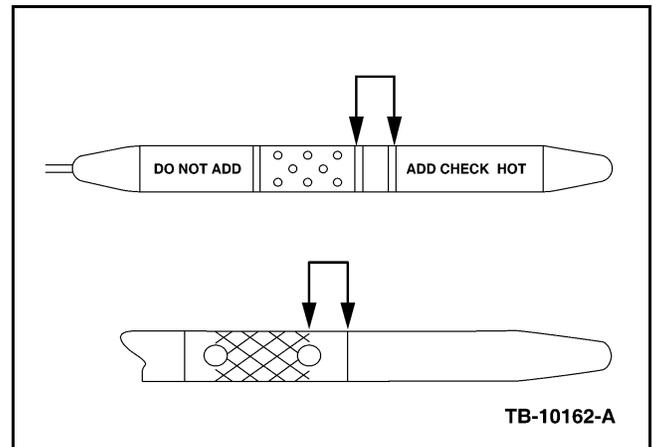

Figure 1 - Article 11-7-15
1. Transmission fluid level must be checked at operating temperature of 85 °C - 93 °C (185 °F - 200 °F), per Workshop Manual (WSM), Section 307-01. At this temperature, adjust fluid level to the flat tow area on the dipstick. This level is within the safe operating fluid level and does not require the customer to have the fluid level readjusted after flat tow operation. (Figure 1)
If setting the fluid level for a customer that will be recreational flat towing the vehicle, set the level between minimum line and the minimum hole at the bottom of the hash marks on a blade type dipstick or in the Flat Tow area below the hash marks of the bullet-on-a-wire type dipstick per WSM, Section 307-01. (Figure 1)